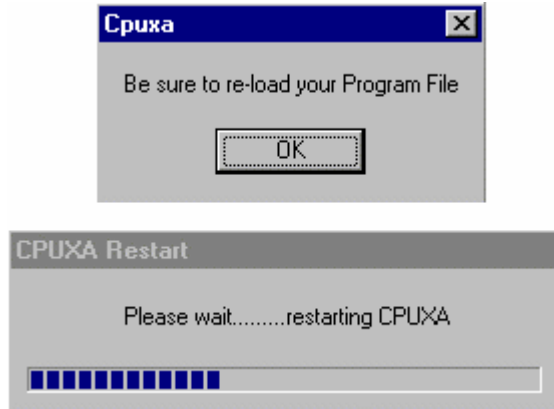

Fig. 49
7) Once each module has been addressed, click Close with the left mouse button. The following windows will appear (fig 49): Click OK with your left mouse button.